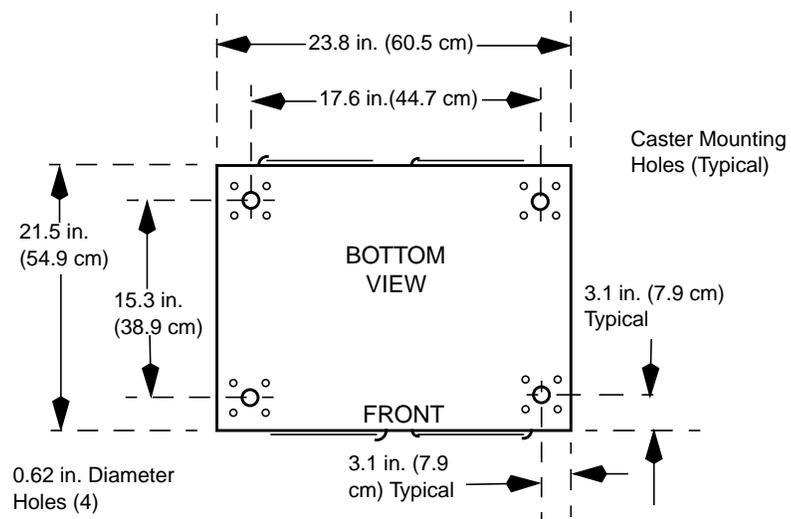

Figure 3-13: Drilling Template for a 70-in. Station Cabinet
- Base mounting (see Figure 3-13)